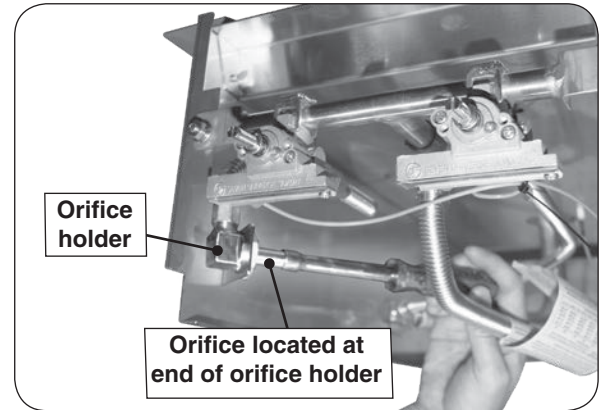

Fig. 27-1 Orifice location
4. Using a $\frac{3}{8}$ " socket nut driver, remove the orifice from the orifice holder (see Fig. 27-1) and check the number stamped on the orifice face.